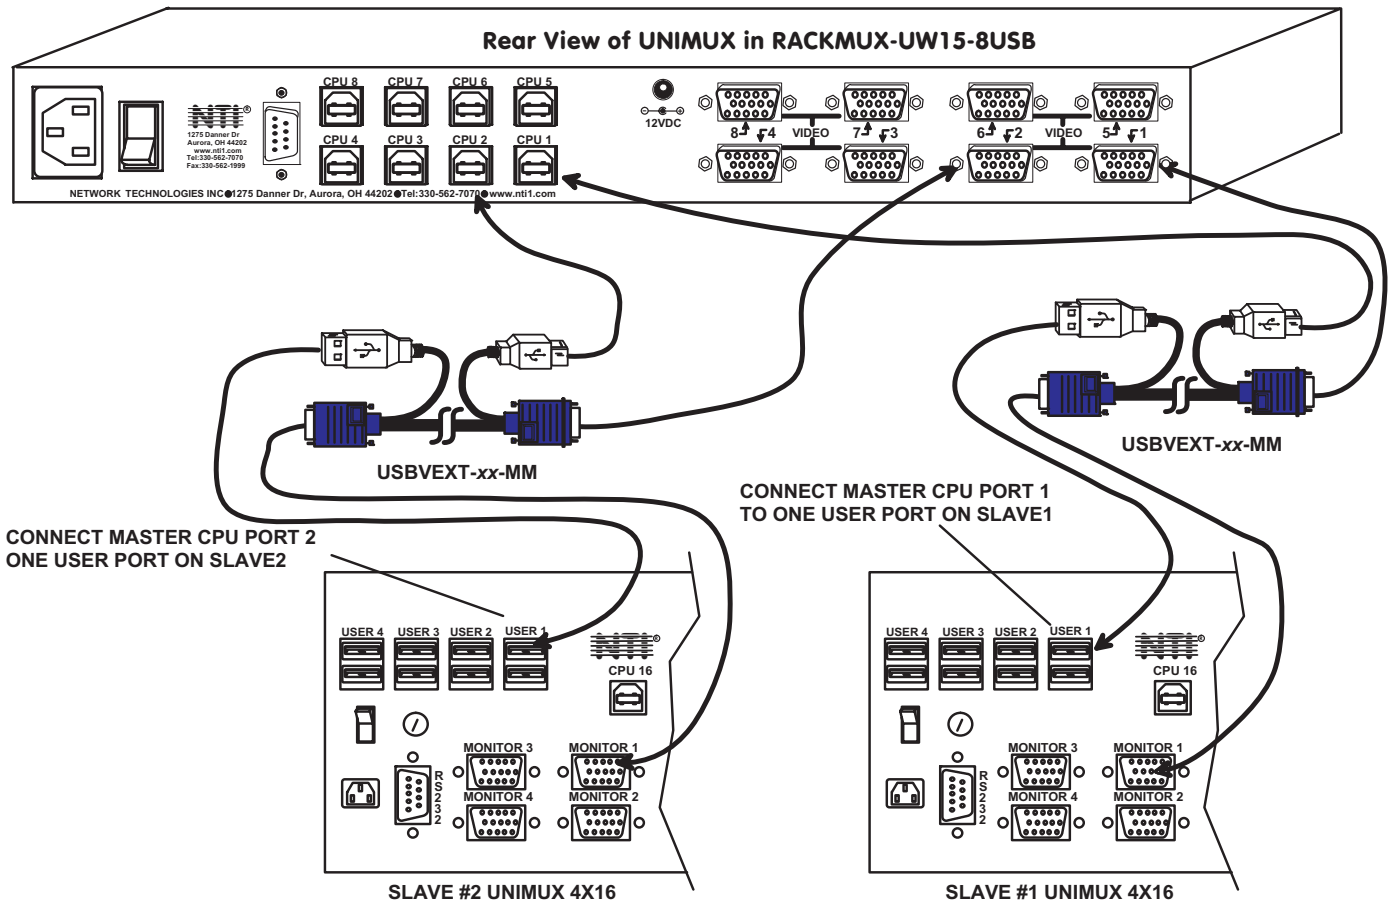

Figure 24- Master to slave cable connections- multi-user switches
- Repeat step b. & c. for each additional slave, keeping in mind that each slave will connect to the next available master's port (i.e. Slave #2 to master's VIDEO 2 & CPU 2, etc.) See Fig. 24 on page 22.